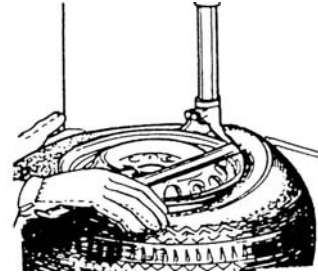

Fig 8
3) Insert the lifting lever between the tyre bead and the front section of the mounting head, and move the tyre above the mounting head shown as Fig 8.
With the lifting lever held in position shown as Fig 8, rotate the turntable in a clockwise direction by fully depressing the reverse pedal. Continue until the tyre is completely separated from the wheel rim.
Note: The tyre can be slid out easily from the mounting head due to hardness. In order to prevent it, with the lifting lever held in position shown as Fig 8, rotate the turntable about 1~2 cm in anti-clockwise direction before rotating in clockwise direction.